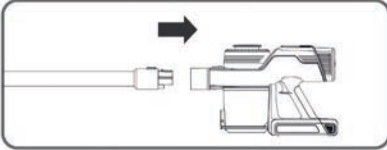

Figure 1
- Push the end of the aluminium tube horizontally into the vacuum hole of the main body. A click noise will indicate that the tube is securely fastened to the main body (figure 1).